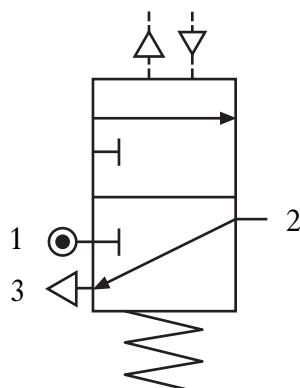

Figure Q2(a)
2. The symbol for a pneumatic valve is shown in Figure Q2(a).